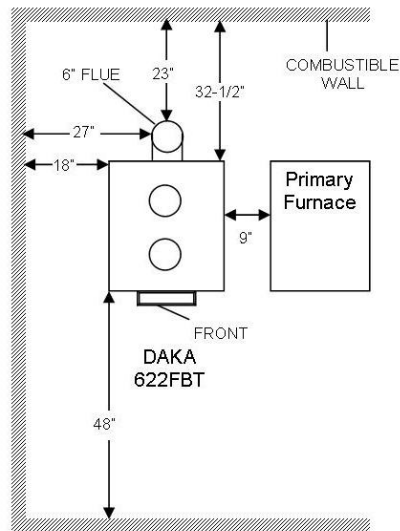

### **FIG. 3 – Clearances from Horizontal Warm Air Ducts**
**NOTE: After attaching warm and cold air supply and return pipes to primary furnace, check entire system to insure that static pressure remains unaffected. Verify horizontal duct clearances (see FIG. 3).**